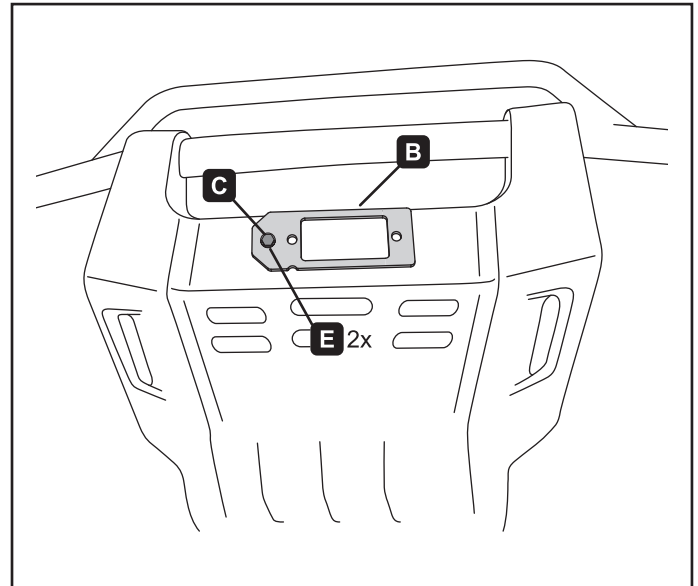

Figure 7. Standard fairlead configuration
- Note:** For a standard fairlead use fairlead adapter (B) and bolt (C), washers (E) and nut (D) as shown in figure 7.